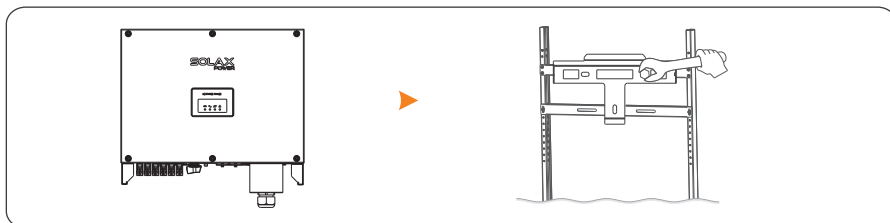

Figure 4.11 Mounting the inverter
**Step 2** Mount the inverter on the rear panel and keep them aligned with each other, as shown in Figure 4.11.